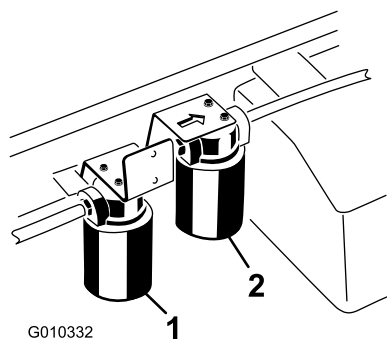

Figure 72
3. Place a drain pan under the filter and remove the filter (Figure 72).
1. Clean the area around the high-flow-filter mounting area (Figure 72).